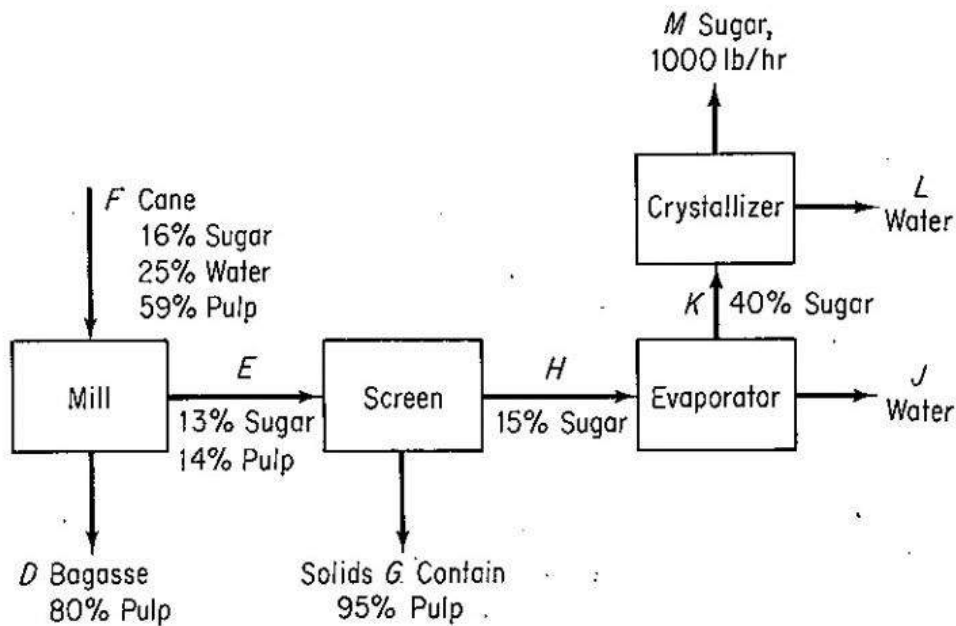

Figure E 11.4
A simplified flowsheet for the manufacture of sugar is shown in Fig. E 11.4. Sugarcane is fed to a mill where a syrup is squeezed out, and the resulting "bagasse" contains 80% pulp. The syrup (E) containing finely divided pieces of pulp is fed to a screen which removes all the pulp and produces a clear syrup (H) containing 15% sugar and 85% water. The evaporator makes a "heavy" syrup and the crystallizer produces 1000 lb/hr of sugar crystals.